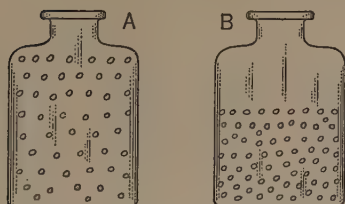

FIG. 347.—The space between the particles is less in compact soil (*B*) than in loose soil (*A*).
**Capillarity in everyday life.** When you use blotting paper, the ink passes through the tiny spaces between the fibers of the paper. If one end of a wet towel is left in a bowl of water and the other reaches to the sink outside, the water will soon be carried up the towel over the edge of the bowl and down into the sink. The carrying of liquids by fibers is an essential process in the burning of candles and oil lamps. The rising of water in soil by capillary action is of much practical value to the farmer and gardener. The height to which it will rise depends upon the size of the particles and the compactness of the soil. If the grains are coarse, the spaces between them will be large. If the grains are fine, the spaces may be large if the soil is loose but small if the particles are crowded together, as is shown in Fig. 347. There is the